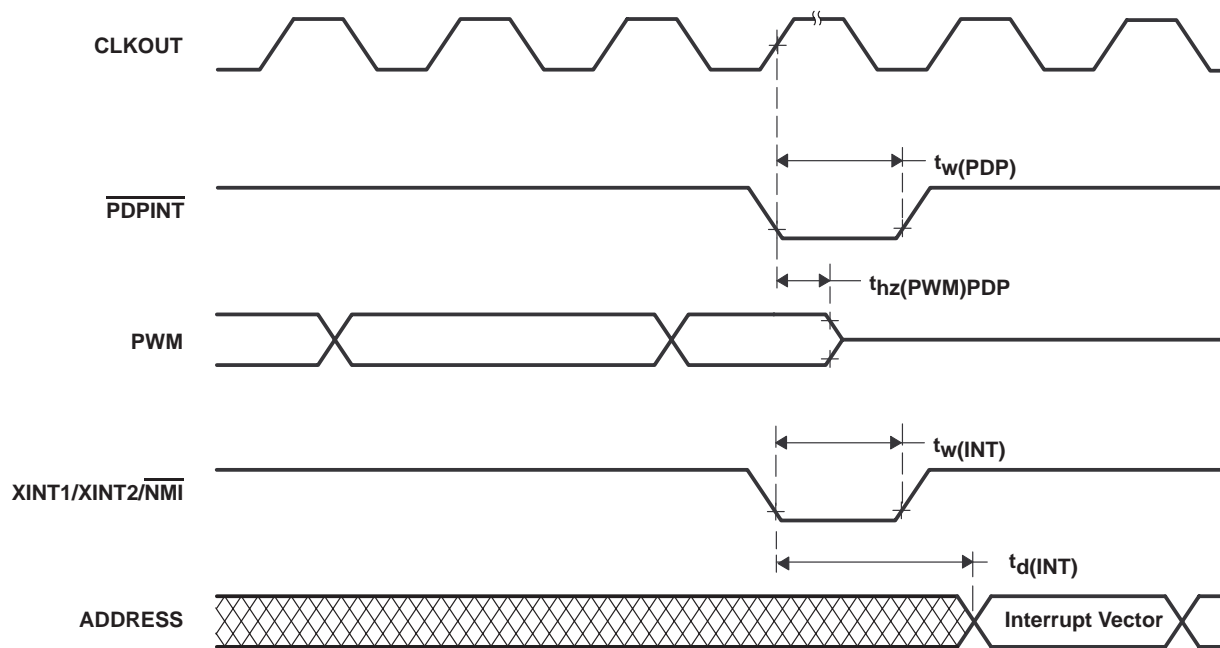

Figure 30.  $\overline{\text{PDPINT}}$  and External Interrupt Timings
**switching characteristics over recommended operating conditions (see Figure 30)**
**timing requirements [ $H = 0.5t_c(\text{CO})$ ] (see Figure 30)**